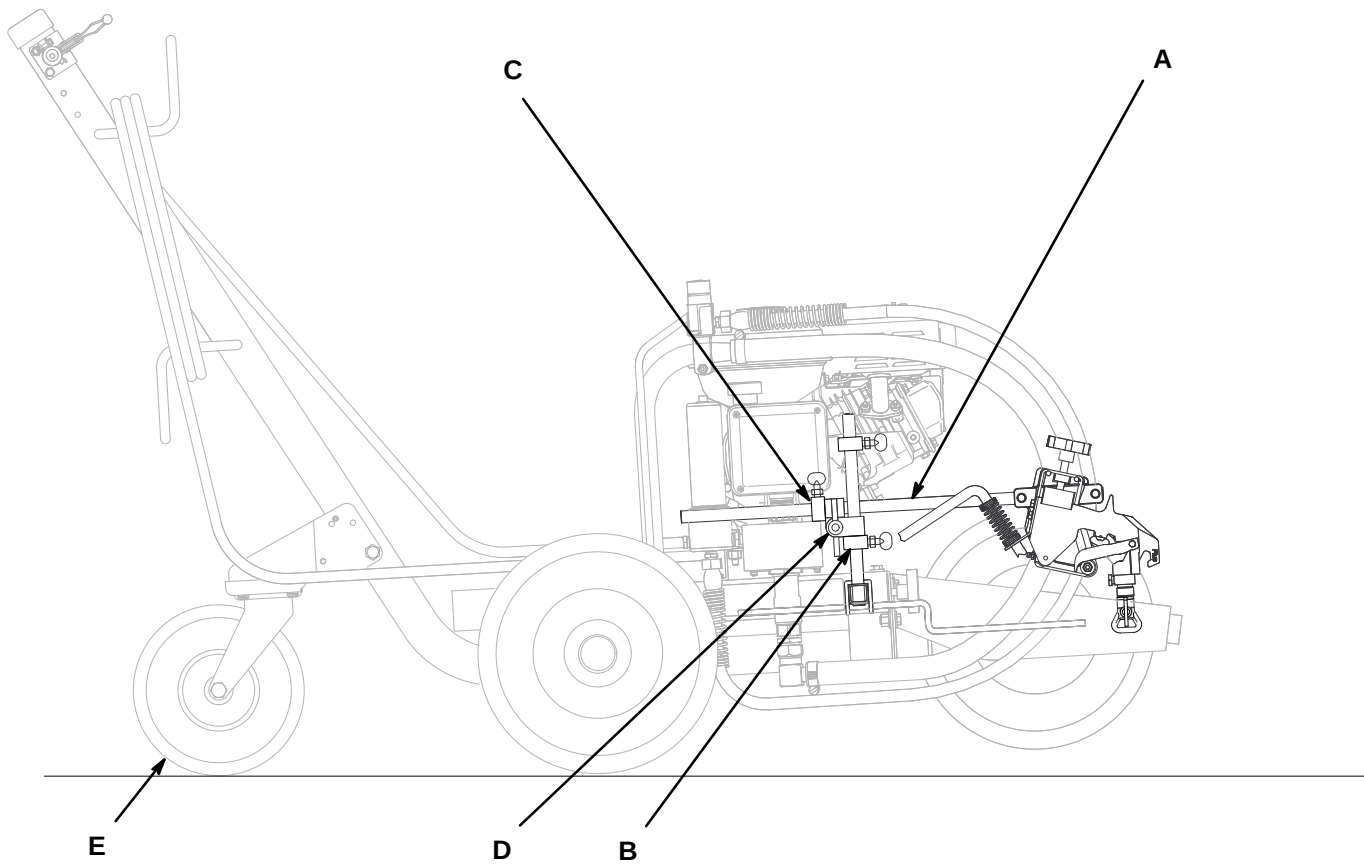

Fig. 4
5. Extend spray gun arm (D) to maximum forward position that will be used for painting during day.
6. Set stop collar (E) so it touches back of arm support clamp.
Note: Fig. 4. Be sure caster wheel (E) is swiveled to rear of cart and touching ground.
1. Fig. 4. For curved painting, move spray gun arm (A) to pre-set lower collar (B) position.
2. Slide gun arm forward so pre-set stop collar (C) touches arm support clamp (D). Tighten clamp.